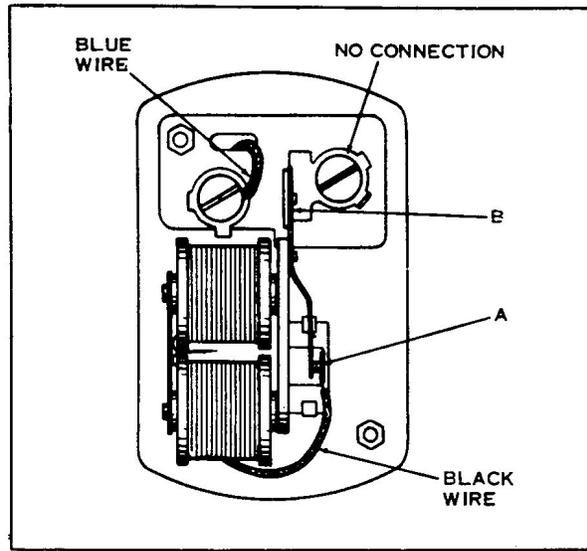

FIG. 3
- (c) With the Teletalk on, use long-nose pliers and carefully move the stationary buzzer contact ("A" with black wire connected to it in Figure 3) until the desired tone is obtained.
- (d) If further adjustment is necessary, the position of the armature on the pole pieces ("B" in Figure 3) can be adjusted to obtain a desired tone. This adjustment may not be necessary since adjustment of the stationary contact "A" also adjusts the gap.
- 3.27 If the buzzer is to be removed from the set, note the connections in Figure 3.
- Figure 3 1200-Series Buzzer